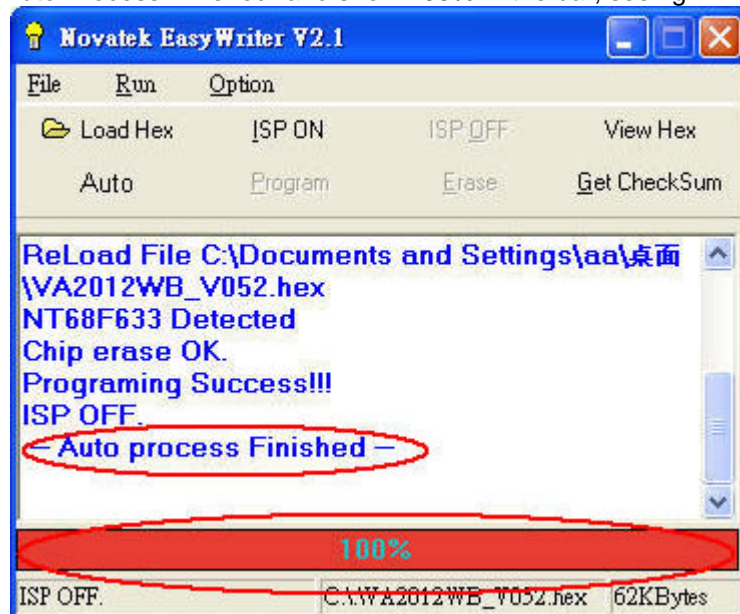

Fig. 2.4
2.4 Check the status is “Auto Process Finished” and show 100% in the bar, see fig2.4